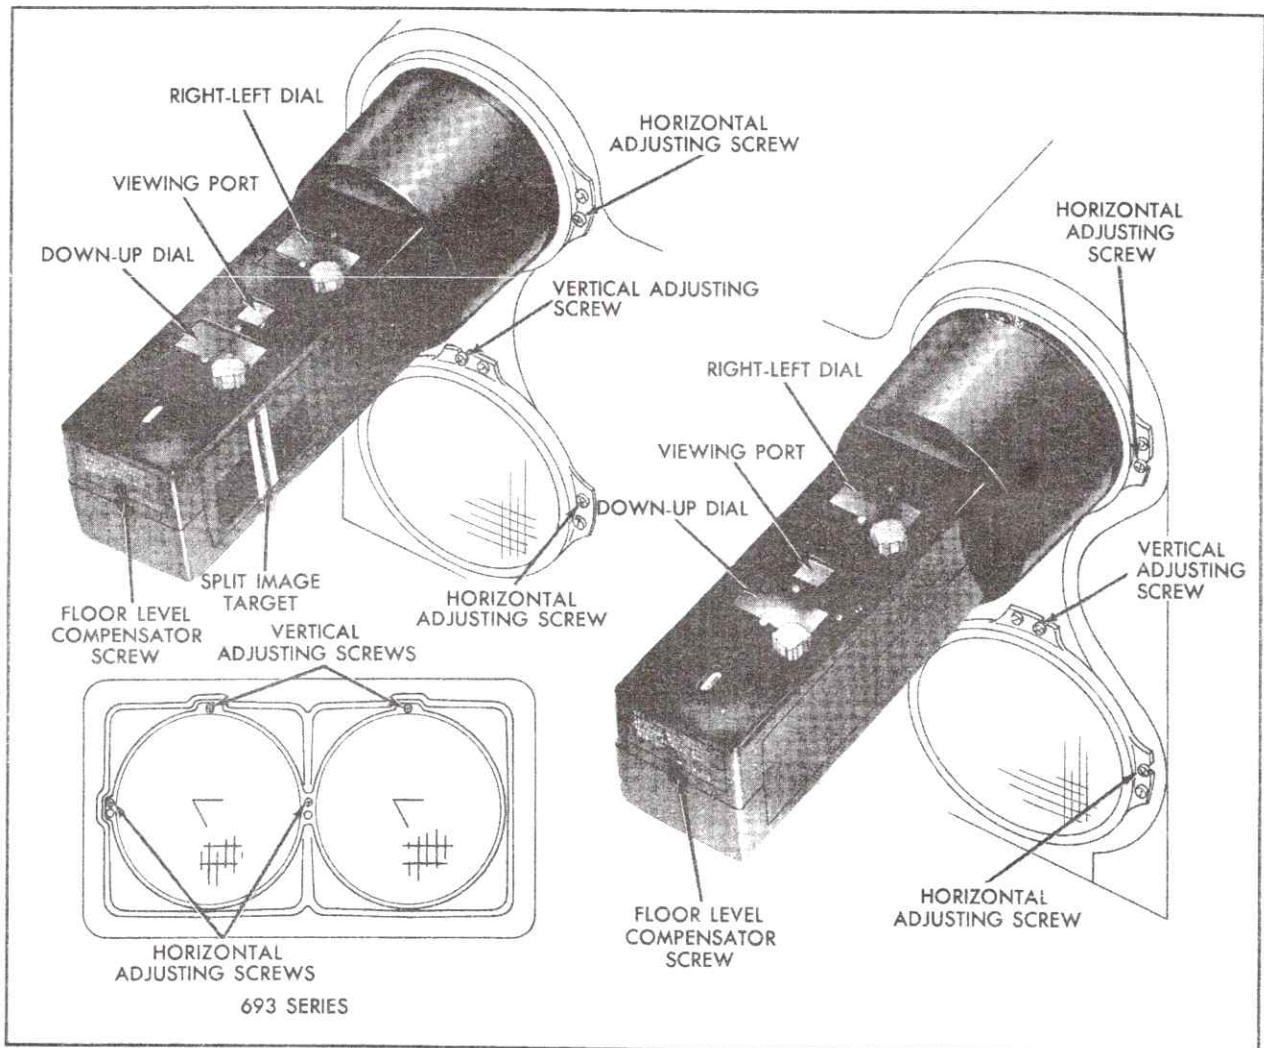

Fig. 12-8 Horizontal and Vertical Adjustments
1. Set "Right - Left" dial on zero, Fig. 12-8.
2. Turn headlights vertical aiming screw counterclockwise until bubble is on car side of center. Turn screw clockwise until bubble is centered for correct aim and elimination of backlash, Fig. 12-8. Repeat horizontal and vertical adjustments on other headlight aimer.